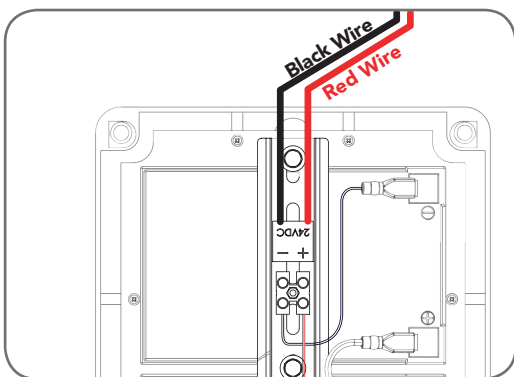

Fig 13
3. Connect the **red wire** to the Battery Box's "+" terminal, and the **black wire** to the "-" terminal (Fig. 13).